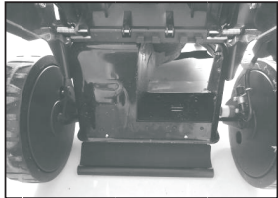

Fig. 9A
1. Raise the rear cover and remove the grass catcher. (Fig 9A)